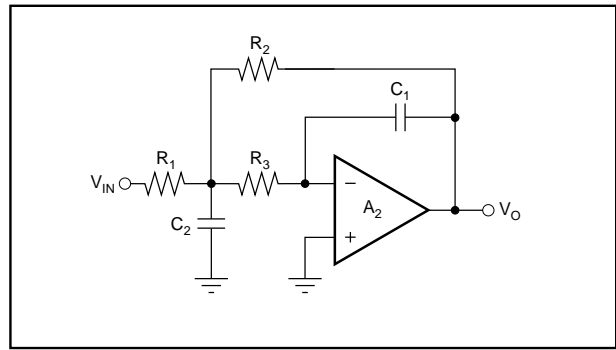

FIGURE 7. MFB Complex Pole-Pair Section.
- Multiple Feedback (MFB)—shown in Figure 7.
Figure 7 circuit, $K = R_2/R_1$